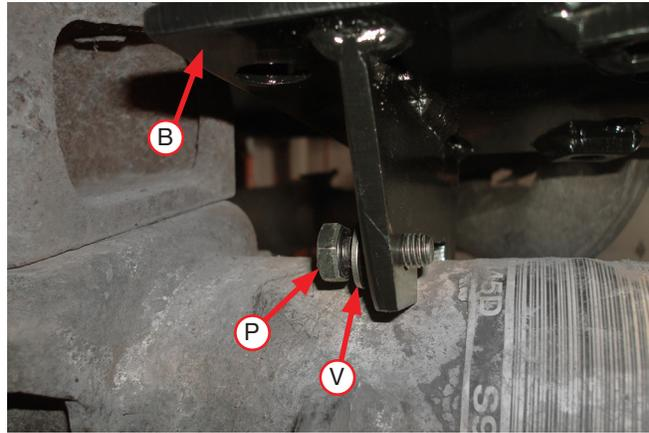

Fig. 10
10. Set a lower bracket (B) onto the passenger's (right) side axle (Fig. 10) and insert the 5/16" hex cap screw (P) through a 5/16" flat washer (V) through the lower bracket, from the leaf spring side of the bracket, to the inside (toward the center of the vehicle). Push the bolt up against the bracket.